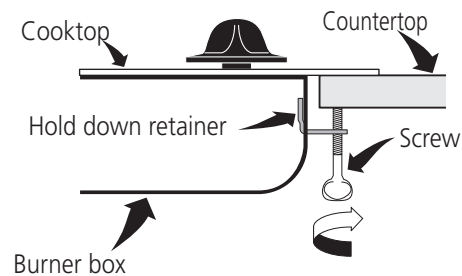

Figure 14
5. Unit clamp down information. Once unit is installed in counter opening, you must clamp unit down as shown in figure 14.